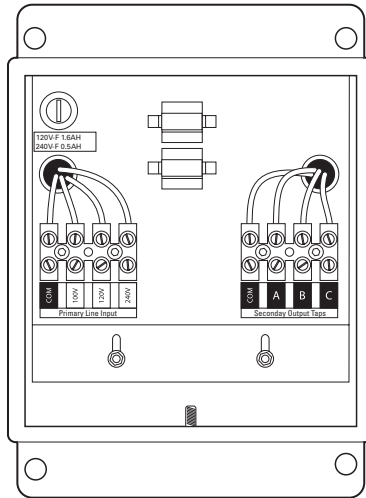

Figure 4. Wiring Connector Diagram
To change the fuse, remove the lid to the fuse holder (refer to Figure 4) located inside the power supply and then install the new fuse. Store extra fuses (supplied) in the spare fuse holders.
To install the input power wires to the WCS1-4 power supply, refer to Figure 4 on page 6 and perform the following steps:
To install the output wiring to the camera, dome, or positioning system, refer to Figure 4 on page 6 and perform the following steps:
1. Refer to Table A on page 7 and determine the output connection needed for your camera, dome, or positioning system. Refer to Figure 4 on page 6, for the proper connector strip connections.